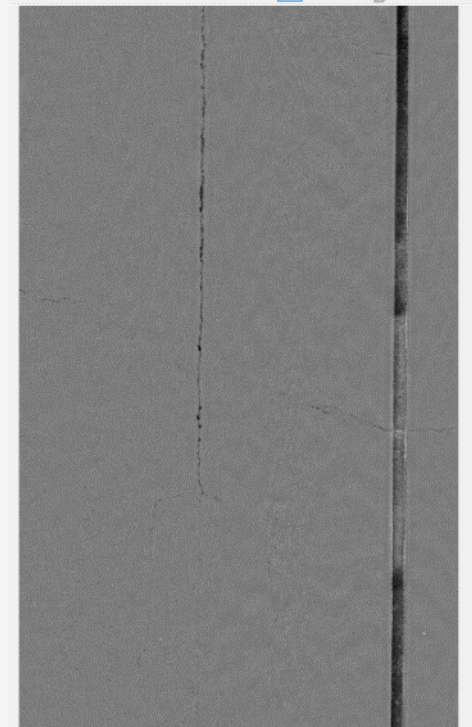

Figure 1-2 Image of range (crack detection image)
3. Range Image used to detect cracks (see Figure 1-2)